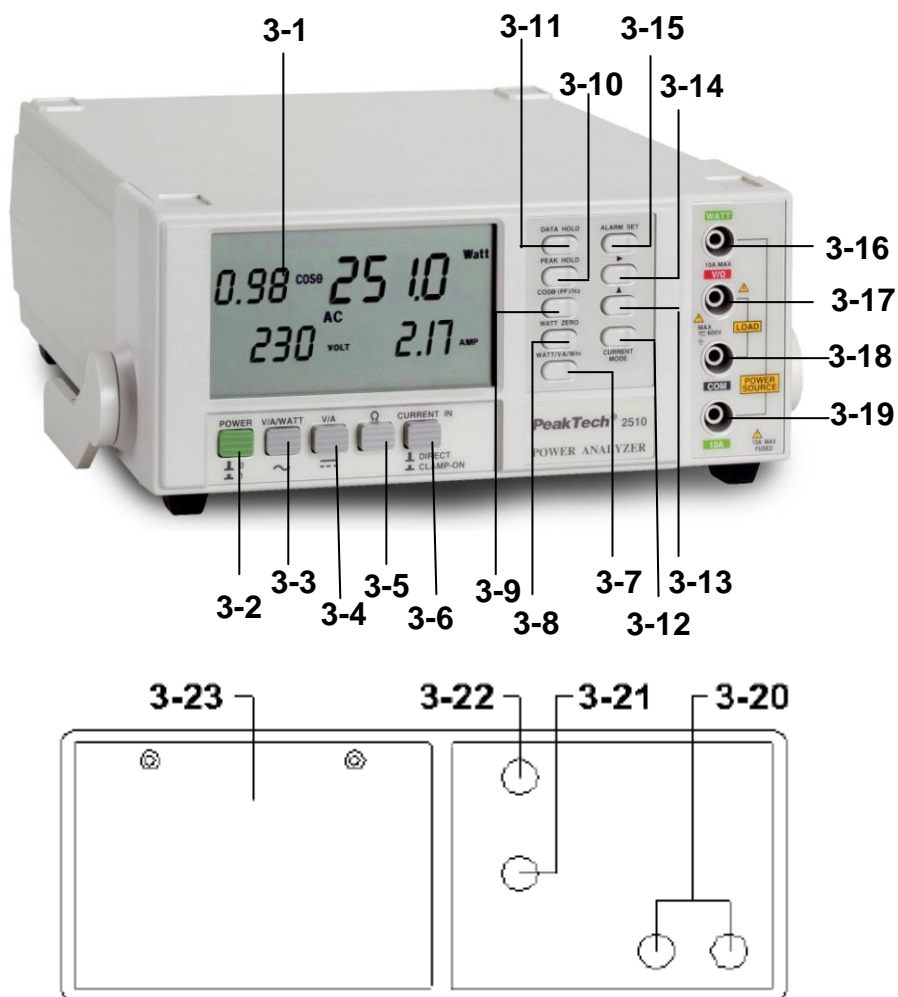

Fig.1
1. Push the "Power Switch" (3-2, Fig. 1) to "ON" position
2. Select the "AC/V/A/Watt-Switch" (3-3, Fig. 1)
3. Select the "Current In"-Switch (3-6, Fig. 1) to the "DIRECT"-position
4. Do not make any wire connection to the input terminals. If the watt display is not zero, push the "Whr-Zero Button" (3-8, Fig. 1) once, then watt display will show "0".
The "LCD Display" (3-1, Fig. 1) will show the Watt, Voltage, Current, PF (Power Factor) at the same time.
8. During the Watt measurement, push the " $\cos\phi$ /PF/Hz Button" (3-9, Fig. 1) once, will show Line Frequency value instead of the PF value.
All the measuring procedures are same as the above "7.1-AC Watt/V/A/PF/Hz" measurement, except you should push the "Watt/VA/Whr Button" (3-7, Fig. 1) once, then the display will show the VA, voltage, current, Hz at the same time.
All the measuring procedures are same as the above "7.1-AC Watt/V/A/PF/Hz" measurement, except you should push the "Watt/VA/Whr Button" (3-7, Fig. 1) twice, then the display will show the Whr value along with the elapsed time.
- * The display of Whr measurement will stop (hold) when pushing the "Data Hold Button" (3-11, Fig. 1) once. Push the "Data Hold Button" once again for continuing the Whr function.
- * Press "Whr Zero" button (3 – 8, Fig.1) once will "reset (zero)" the Whr measuring value and make the new measurement again.
1. Push the "Power Switch" (3-2, Fig. 1) to "ON"-position.
2. Select the "AC V/A/Watt Switch" (3-3, Fig. 1).
3. Select the "Current In Select Switch" (3-6, Fig. 1) to the "DIRECT"-position.
- a) Connect red test lead to "V/Ohm Terminal" (3-17, Fig. 1) and black test lead to "COM Terminal" (3-18, Fig. 1)
- a) Connect red test lead to "Current (10 A) Terminal" (3-19, Fig. 1) and black test lead to "COM Terminal" (3-18, Fig. 1)